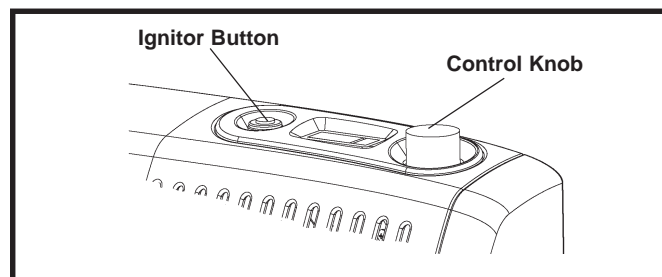

Figure 19.
3. Push in gas control knob and slightly turn clockwise to the OFF position (see figure 19).
4. Wait five (5) minutes. Then smell for gas including near the floor. If you smell gas, **STOP!** Follow "B" in the safety information above. If you do not smell gas, go to the next step.
5. Push in and turn control knob counterclockwise to PILOT/IGN. Press in control knob for five (5) seconds.